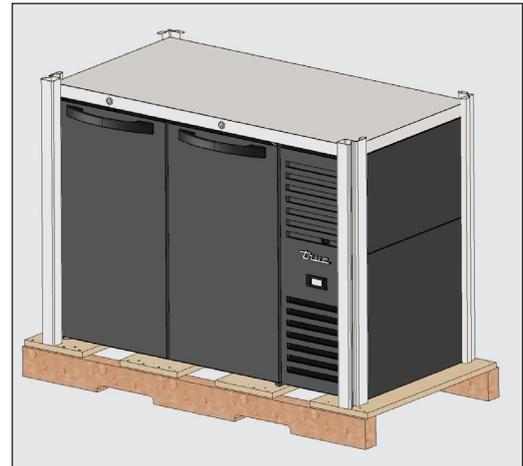

Fig. 1. Remove the exterior packaging.
1. Remove the outer packaging (cardboard and bubbles or styrofoam corners and clear plastic). See fig. 1. Inspect for concealed damage. Again, immediately file a claim with the freight carrier if there is damage.